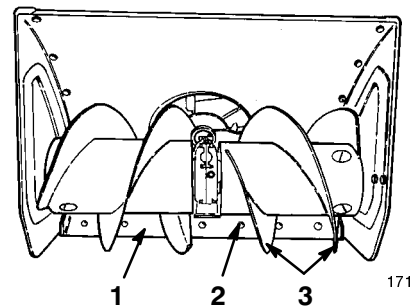

Figure 35
5. Loosen the carriage screws that secure the scraper to the auger housing (Fig. 35).
6. Support the **auger blades** (Fig. 35) so that they are at least 1/8 to 1/4 inch (3 to 6 mm) off the ground.